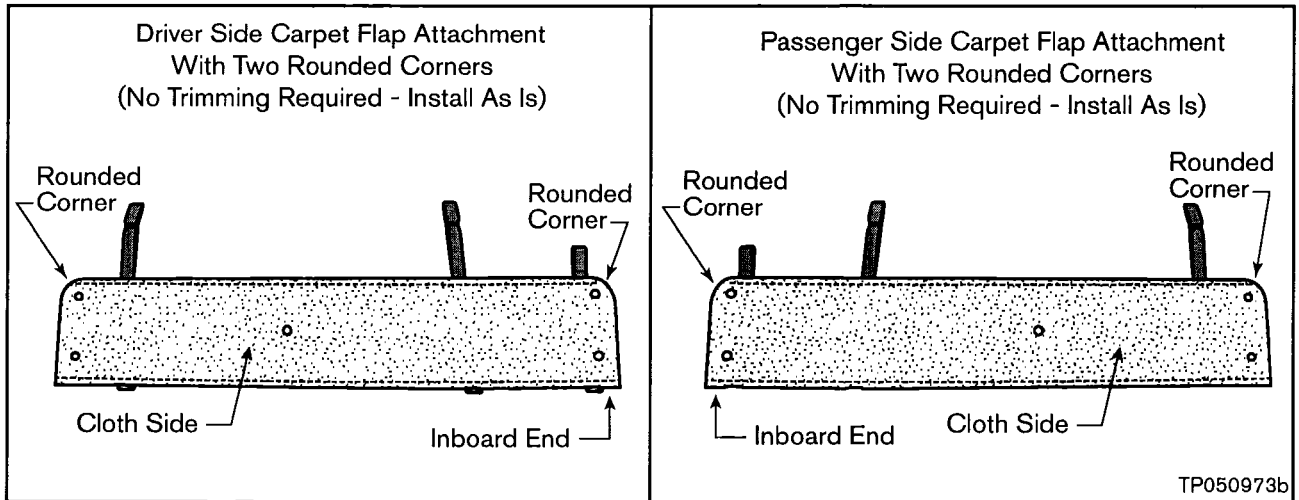

Figure 14
- If the attachments have two rounded corners as shown in Figure 14, no trimming is required. Install the attachments as is. Go to step f.